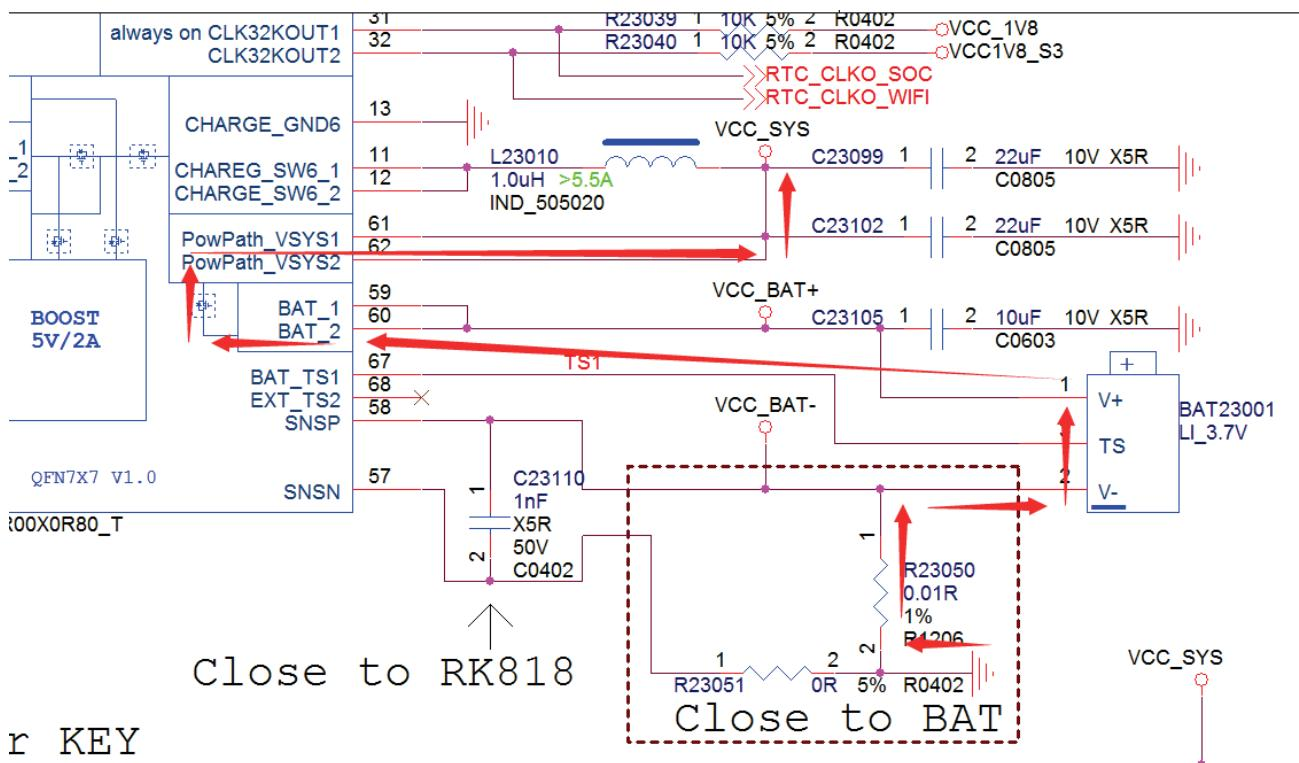

Figure 3-39 RK818-3 Battery Discharge Path
- The RK818-3 PWRON pin is needed connect to RK3399 GPIO by an isolation diode, the pin internal pull-up resistor value is bigger, when the diode leakage is higher, which may make the voltage of PMIC-PWRON less than 2.0V, and will be mistaken as power key enabled and then RK818-3 could not work properly. So, you should use a diode with leakage less than 0.55V. SCS751V-40 is recommended, shown as Figure 3-39.